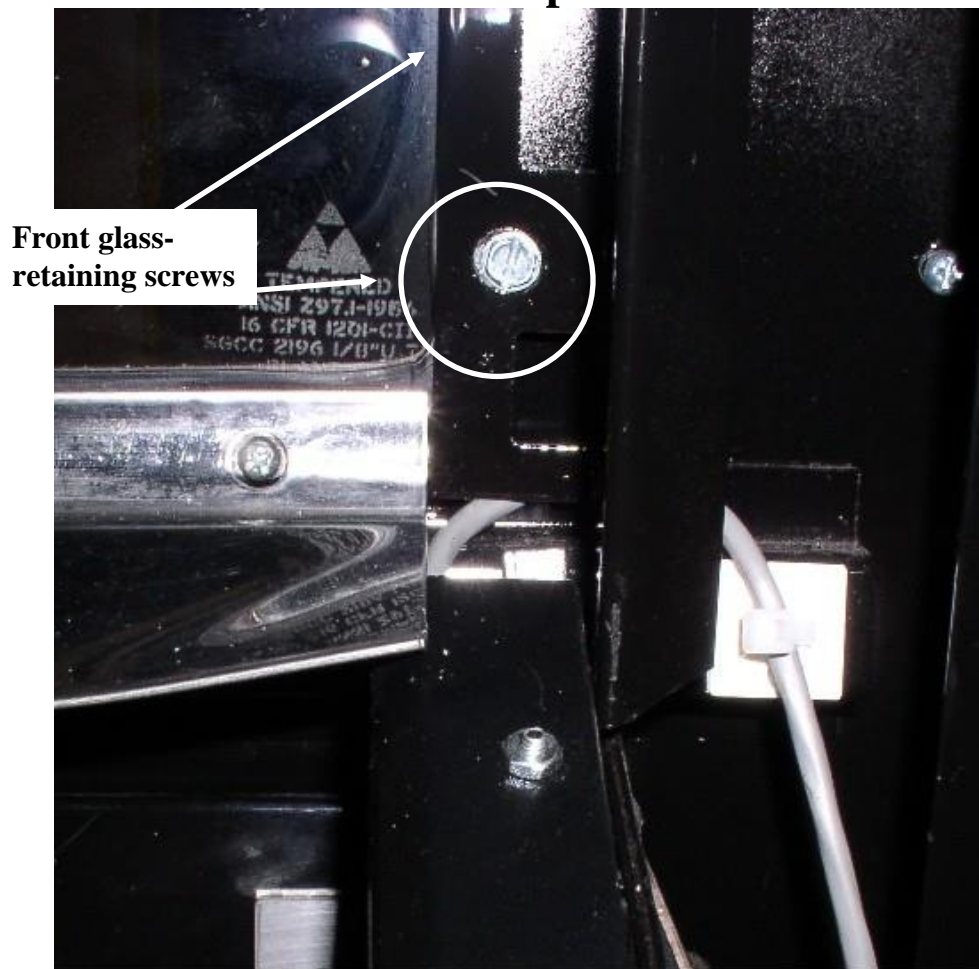

Figure 3 (Typical representation)
5) Loosen bottom two front glass-retaining screws and bend bottom of retainer up slightly. Slide 4-pin harness through hole in retainer, under deflector. Retighten to front glass-retaining screws. **Note: Care must be used as not to damage harness. (Figure 3).**